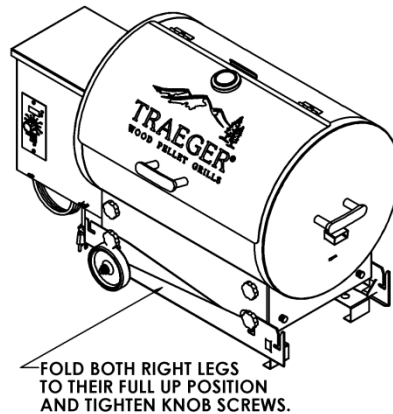

Figure 3-6
4. Lift the right side of the grill removing weight off the legs. Then loosen the lower knob screw on both right back and front legs. Then pivot the front right leg until it comes in contact with the folded down legs. Then tighten the knob screw to secure. Then fold up the back right leg until it comes in contact with the folded down legs. ( See figure 3-6) Then tighten the thumb screw to secure. Then tighten the entire remaining knob and knurled screws so they will not come out.